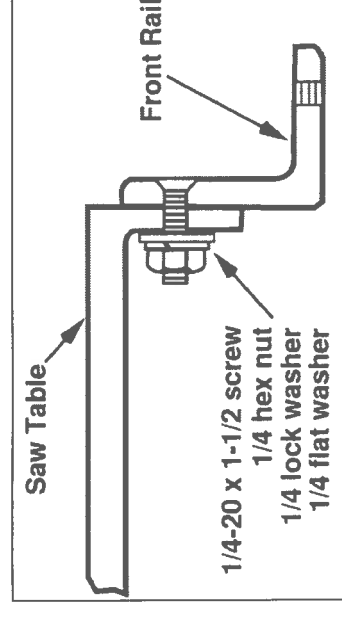

Figure 26
7. Lightly secure the *front rail* to the saw table with four 1/4-20 x 1-1/2 *flat head* screws, four 1/4 *flat washers*, four 1/4 *lock washers*, and four 1/4 *hex nuts* (Figure 26). Finger-tighten only.